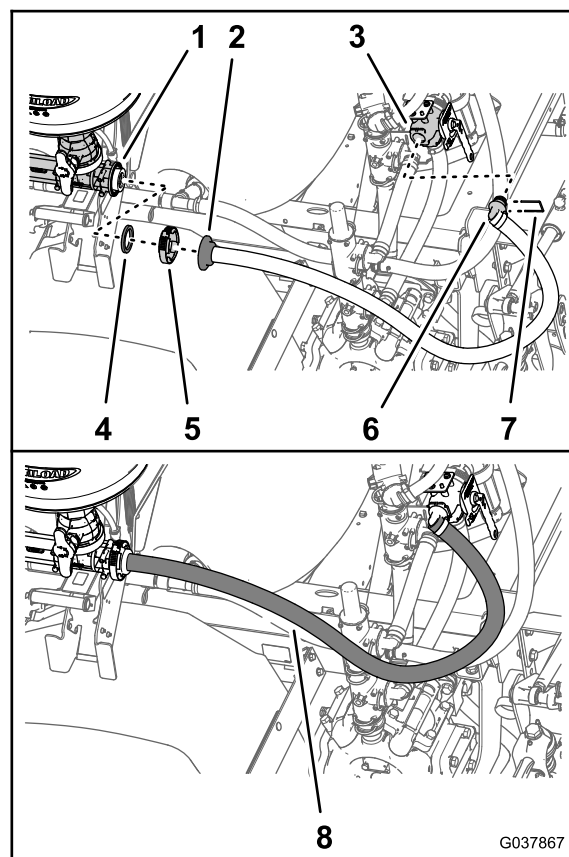

Figure 72
1. Assemble the 90° fitting of the eductor supply hose—2.5 x 156.5 cm (1 x 61-5/8 inches) to the left port of the eductor shutoff valve (Figure 72).
2. Secure the 90° fitting to the eductor supply hose with the retainer that is supplied with the shutoff valve (Figure 72).
3. Align the flange of the straight barbed fitting for the eductor supply hose and the gasket that you removed in Removing the Eductor Supply Hose from the Eductor (page 19) with the flange of the eductor inlet (Figure 72).
4. Secure the straight barbed fitting and gasket to the eductor (Figure 72) with the flange clamp that you retained in Removing the Eductor Supply Hose from the Eductor (page 19).